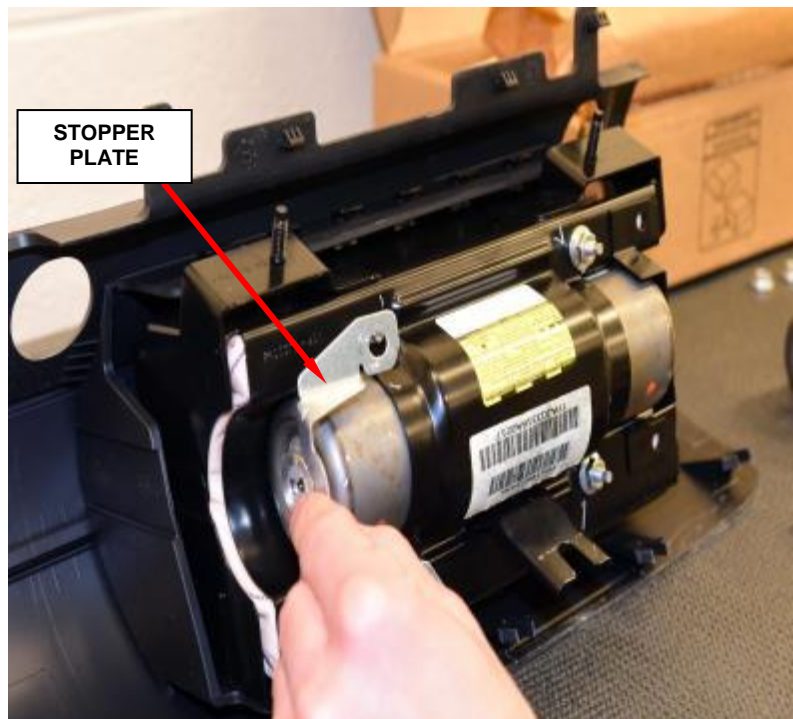

Figure 140 – Stopper Plate
c. Remove and save the stopper plate from the passenger airbag module (Figure 140).